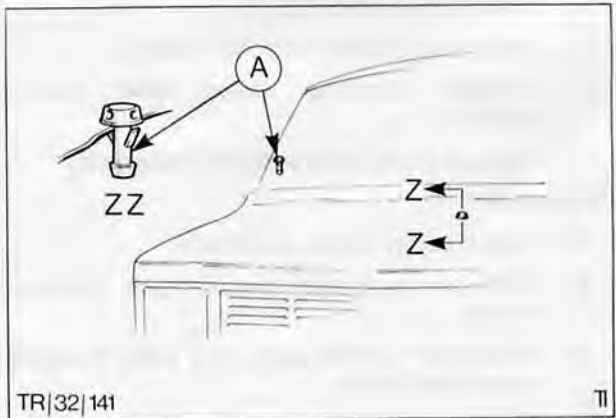

Fig. 40. A – Nozzle
2. Disconnect plastic hose from nozzles, depress clips and press out nozzles from hood, Fig. 40.